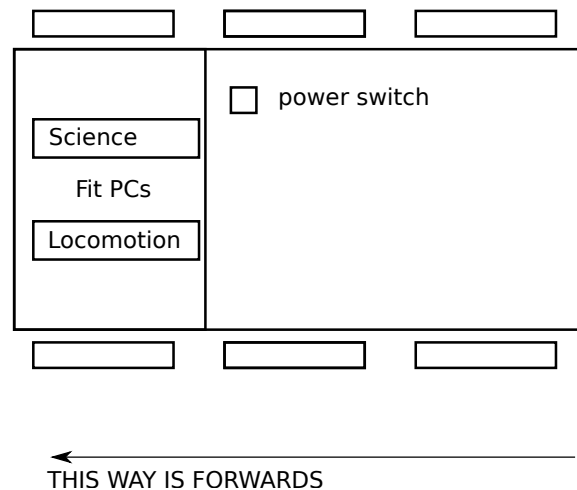

Figure 5: The Blodwen rover, from above
- The PCs are in the wedge-shaped compartment at the front of the rover. If another PC is in use, switch off the spare PC. This is the PC located on the right side of the rover. The power studs are located at the bottom of the PC front panels. Figure 5 shows the arrangement of the PCs more clearly. Power consumption should drop to  $\sim 1.5\text{A}$ .